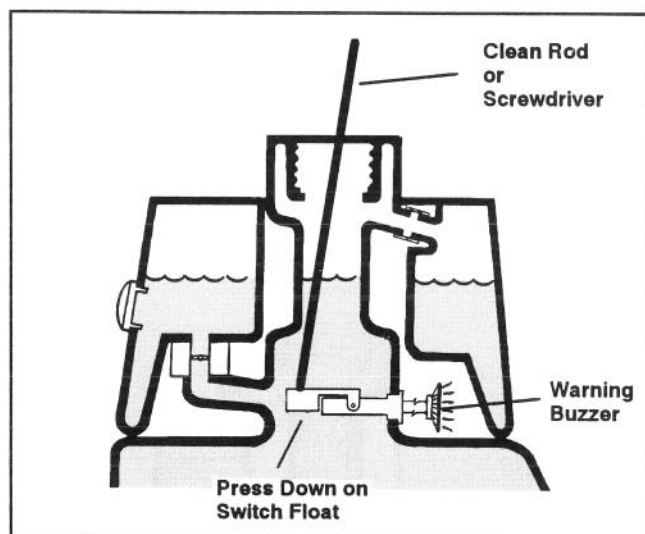

Figure 23
C. Insert a clean rod or screw driver into tank neck and gently push down on switch float (Fig. 23). Alarm should sound after one second delay.